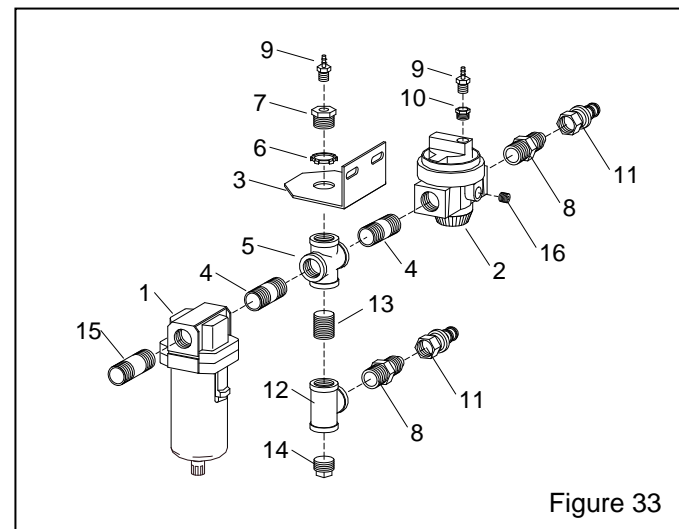

Figure 33
9.4 Suction Inlet Regulator Assembly, Figure 33